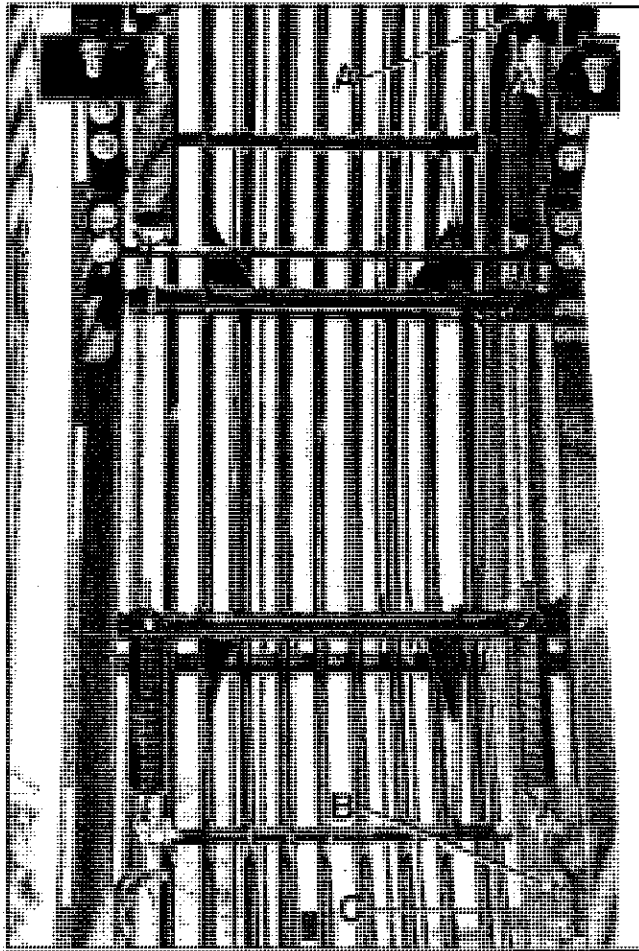

Figure 2.28: Retainer. (A and B) Adjusting Nuts; (C) Spring Bracket.
The retainer rod assembly is able to move away from the wheel as more beets are conveyed. Field adjustment is dependent on beet size and tonnage. The spring adjusting nuts (A or B) (see Figure 2.28) are used to adjust the spring tension. Loosening the stop nuts will decrease the tension. It is normally necessary to tighten in muddy conditions to help clear mud build-up. An additional set of holes are provided for the spring bracket (C), if required for large beets.